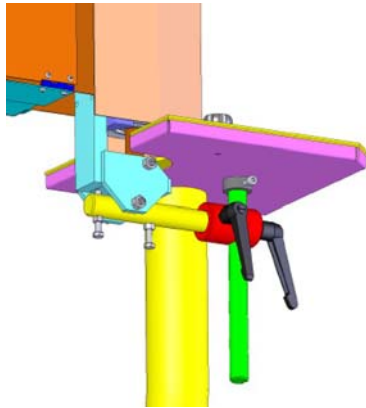

Fig. 4: Mount side table
- Step 2: Insert the side table into the carrier and clamp it to the desired height with the clamping levers (Fig. 4).